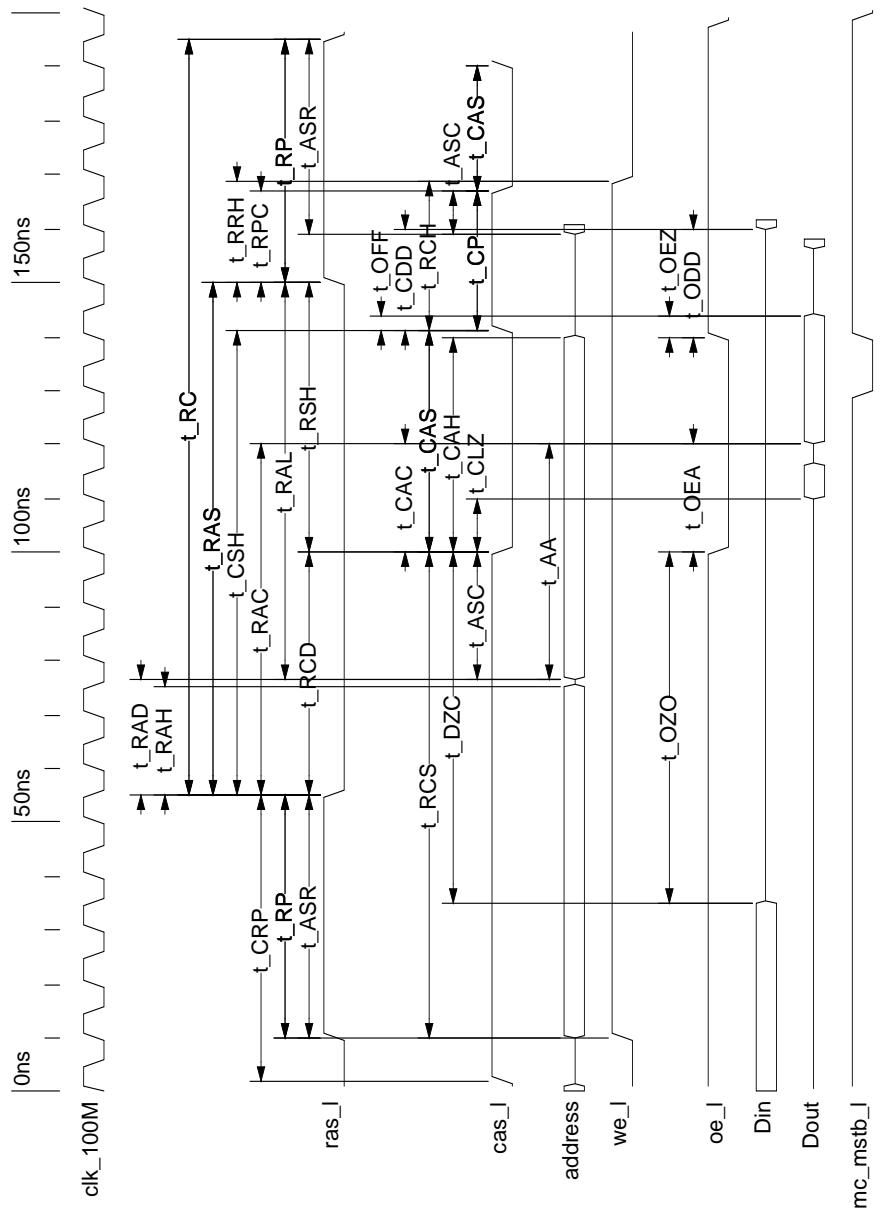
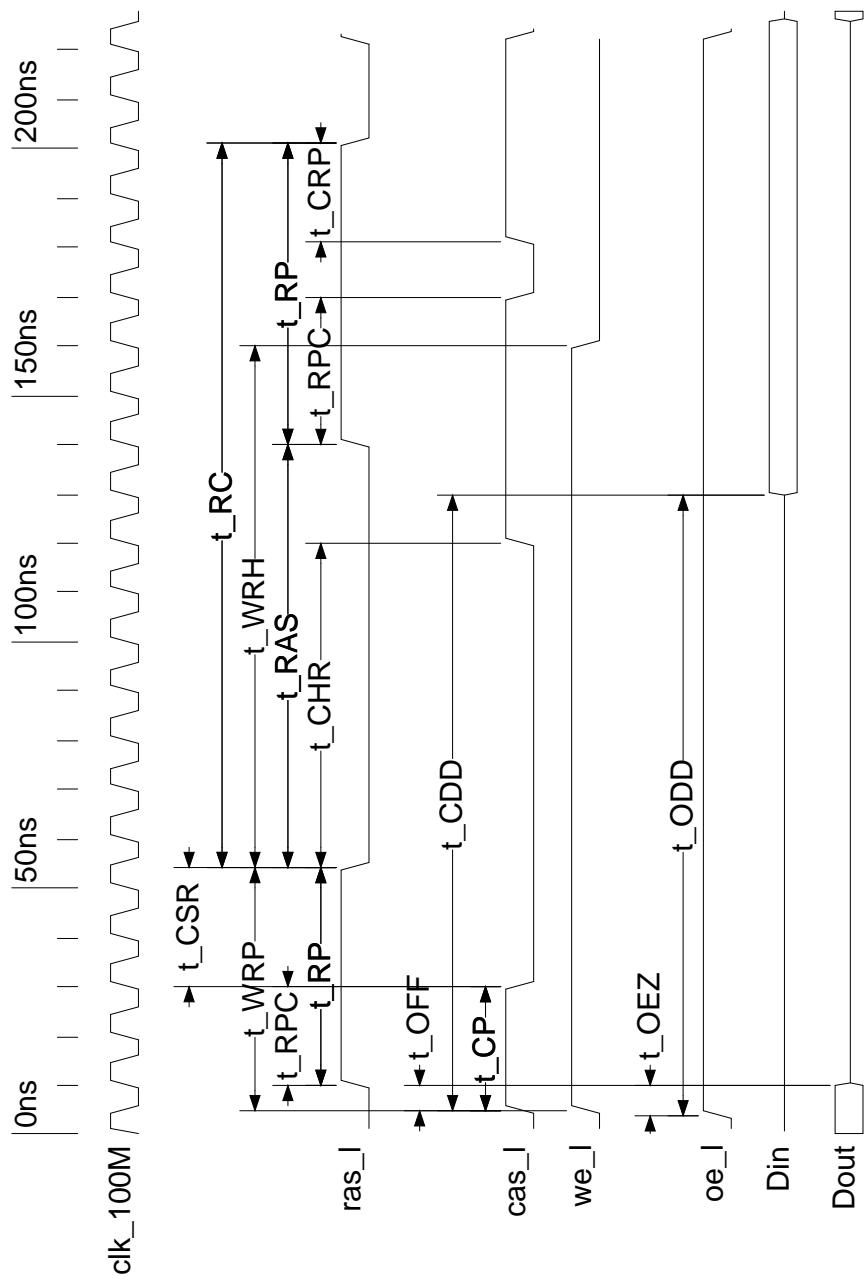

Figure 4. DRAM Read Cycle (100 MHz Clock)
Figure 13. DRAM RAS-Before-CAS Refresh Cycle (100 MHz Clock)
1. The timing diagrams in *Figure 4* through *Figure 13* reflect a SP_SEL[2:0] of 010 for 100 MHz operation.